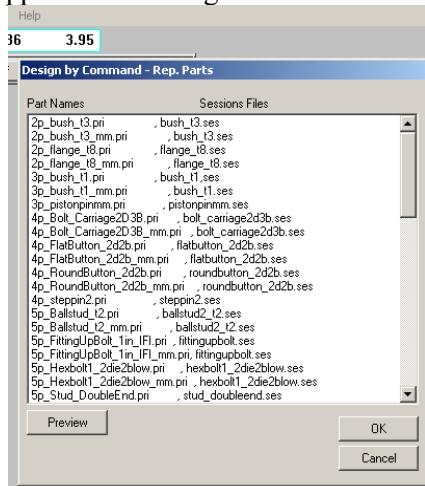

Figure 2
To bring in a representative part in the new file, click on this button. A dialog box shown in Figure 2 would appear. This dialog box shows all the representative parts and their session files that are available.
2. Click on ‘Design by Command’ button. This would bring up the dialog box shown in Figure 2.